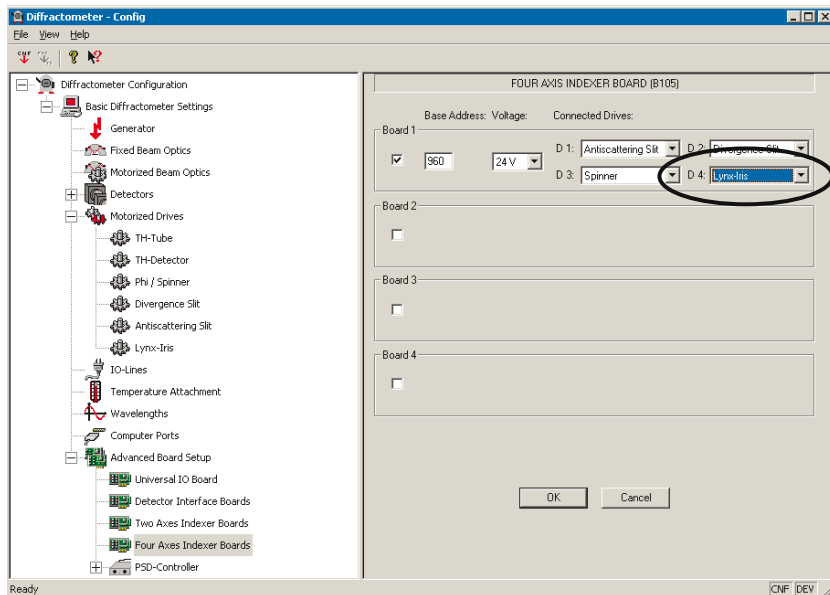

Figure 7.10 Assign the connection of the Lynx Iris
10. Within the **Advanced Board Setup>Four Axes Indexer Boards** section assign the physical connection of the Lynx Iris established in Section 7.1 item 10 (see Figure 7.10).